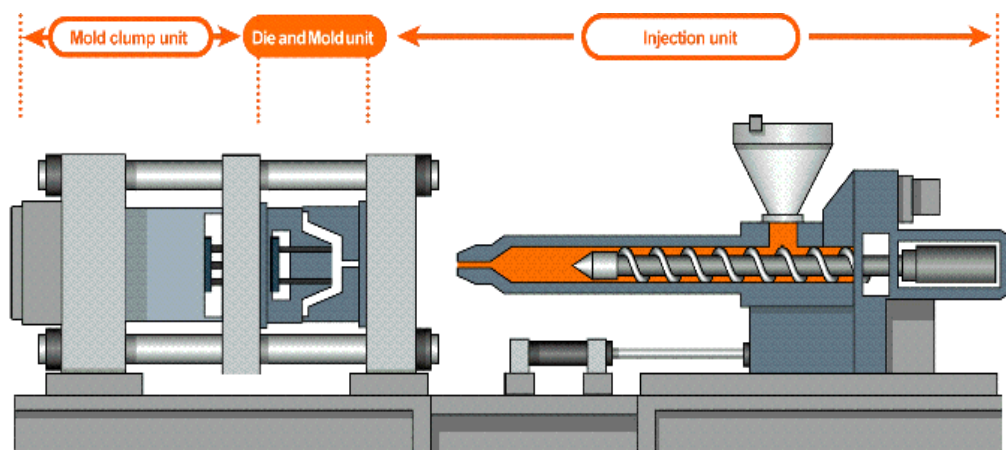

Figure 3b(i): Injection moulding machine
- i. Elaborate the function of the component of injection moulding machine as shown in Figure 3b(i).